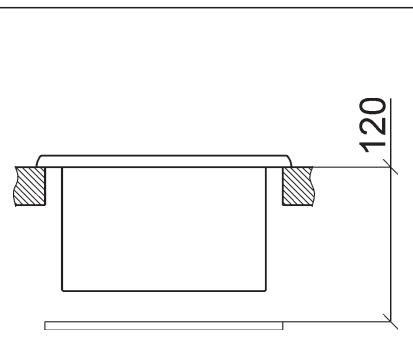

FIG. 7
- In order to prevent any accidental contact with the bottom surface of the teppanyaki heated during use, you must apply a separation in wood must be inserted and fastened with screws at a minimum distance of 120 mm from the top. (fig. 7).